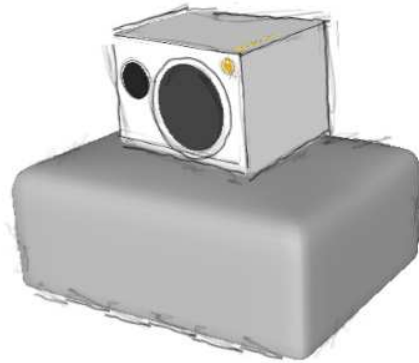

Figure 1
- Support the loudspeakers laterally above a soft support as shown in Figure 1;